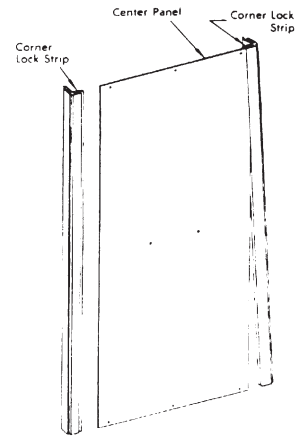

FIG. 1
1. Suspend Center Panel off floor. Angle **Corner Lock Strip** slightly, and engage a short section of **Center Panel** into **Lock Strip** channel making sure smooth (gloss) side of panel will be on inside of shower stall. Align top edge of **Corner Lock Strip** with top edge of **Center Panel**. After total length of **Lock Strip** has been started, secure the strip by tapping from top to bottom with a mallet or hammer handle. Repeat procedure for remaining **Lock Strip**. (FIG. 1)